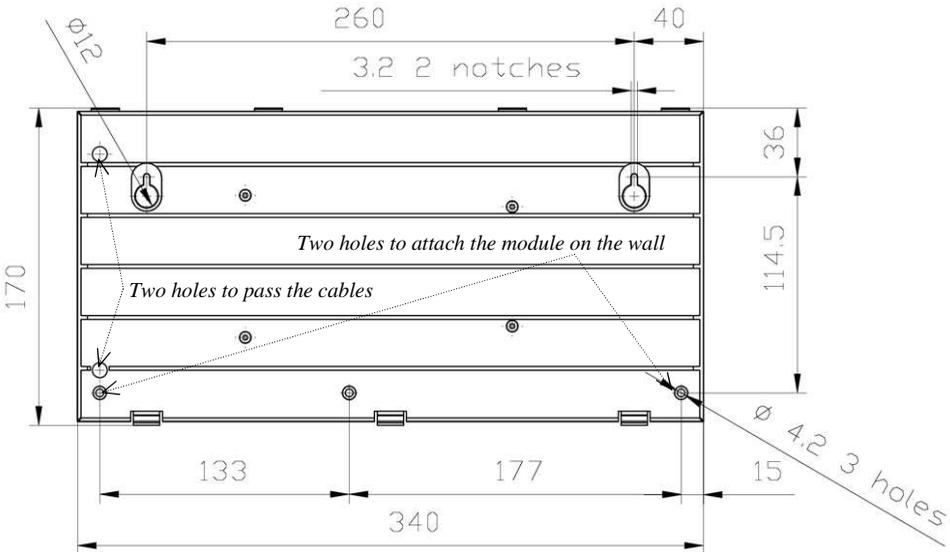

Figure 1. View and Overall and Mounting Dimensions of the Potok-BKI Module
1.1.3 The view of the module is shown in Figure 1.
2.1.4 Mark four mounting points on the wall in accordance with Figure 1.